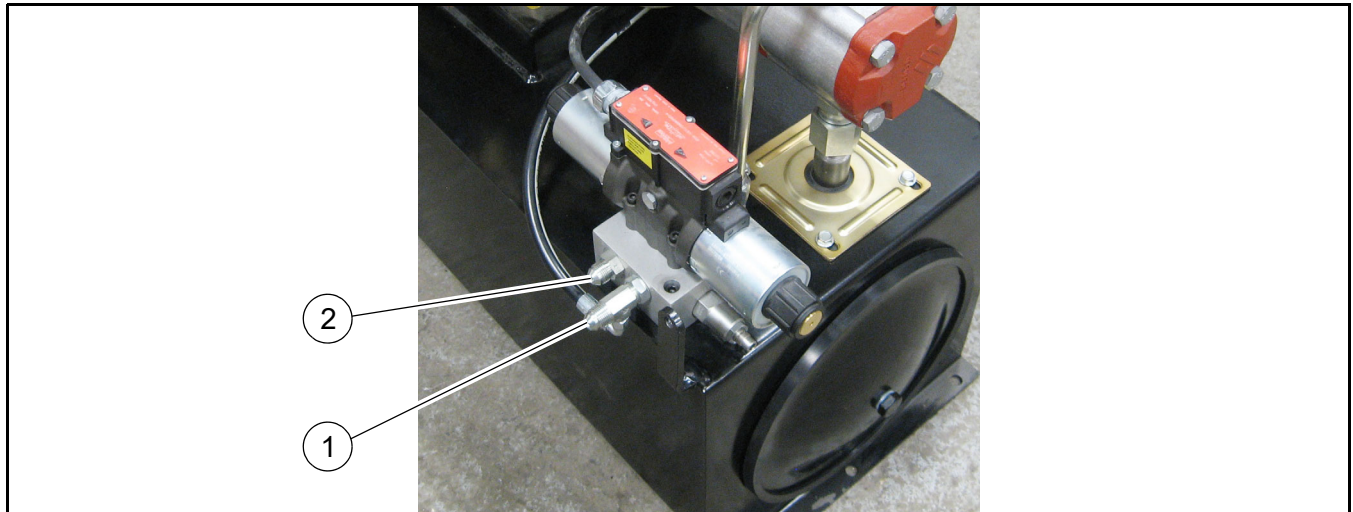

Figure 13
1. Hydraulic hoses are connected to and shipped with the Power Pack. The standard length for the hoses is 12 feet unless a different length was ordered. The hose for the ram cylinders extend function is connected to the tee fitting (**Figure 13, 1**) in the (A) port of the manifold. The hose for the ram cylinders retract function is connected to the adapter fitting (**Figure 13, 2**) in the (B) port of the manifold.